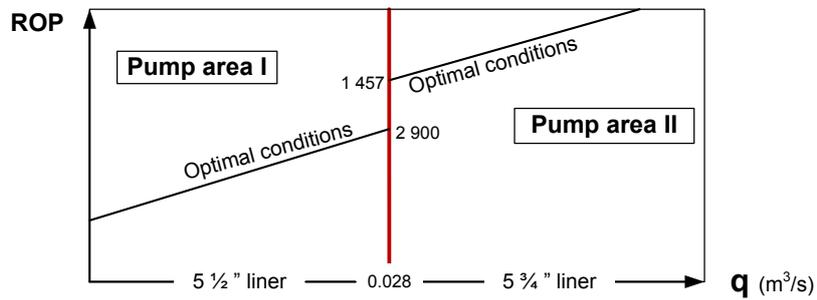
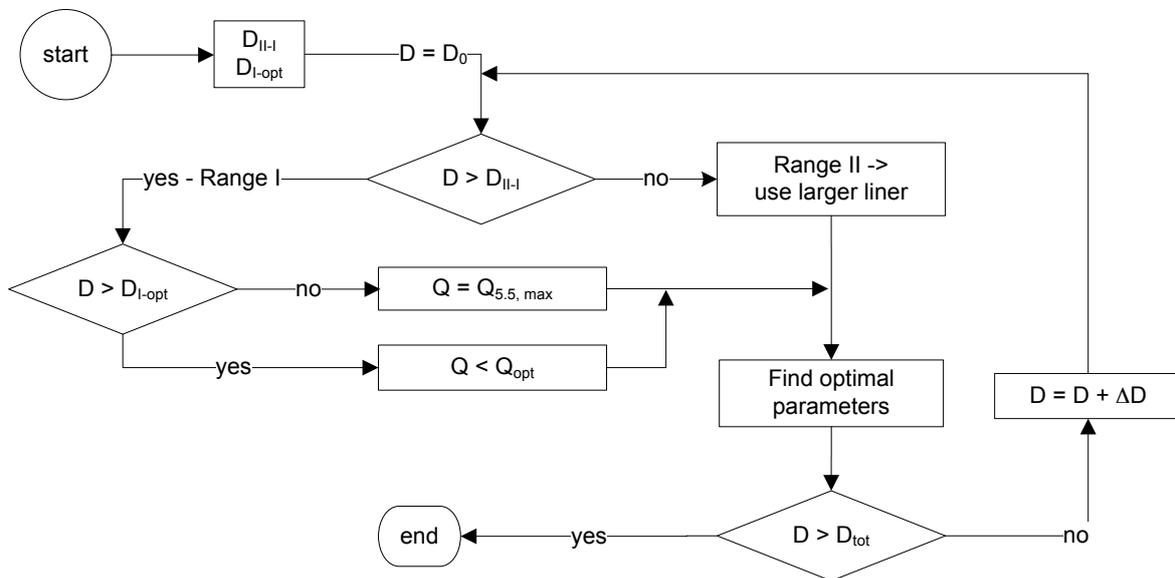

Figure 4-7.1: Boundary area between pump area II and I
Figure 4-7.2: Flow chart of estimating hydraulic parameters while in the boundary zone between the pump area ranges.
a) Find first what working area prevails in the boundary zone between pump area II and I, which are valid as indicated in Figure 4-7.1. Area II ends with the 5.75” liner when  $q_{max, 5.5}$  is reached:
b) In Figure 4-7.1 we see the division between the two pump areas. A preliminary solution of how to distinguish between them is given in Figure 4-7.2, its upper part.